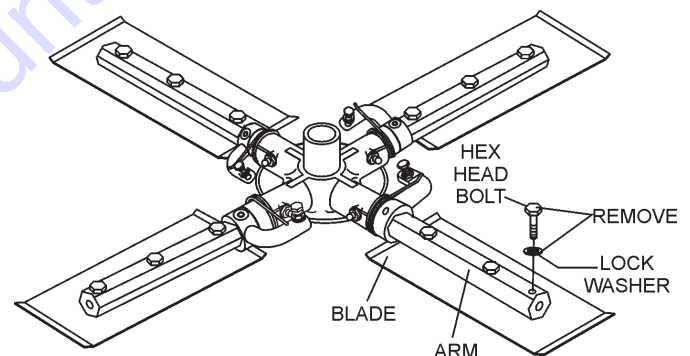

Figure 34. Trowel Blades
- Remove the trowel blades from the trowel arm by removing the three hex head bolts (Figure 34) from the trowel arm. Set the blades aside.